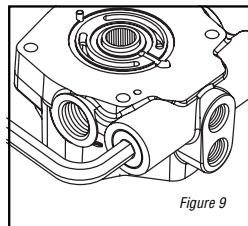
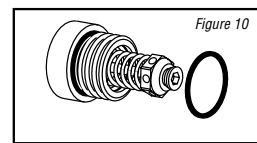

Figure 9
Figure 10
- 8** Use a 9/16 in. hex key to remove the two high pressure relief valves from the pumps backplate assembly (see Figure 9). Remove relief valve as shown from each side (see Figure 10). Each system relief valve S/A is identified by both its part number and relief valve setting as shown in Parts Information manual.